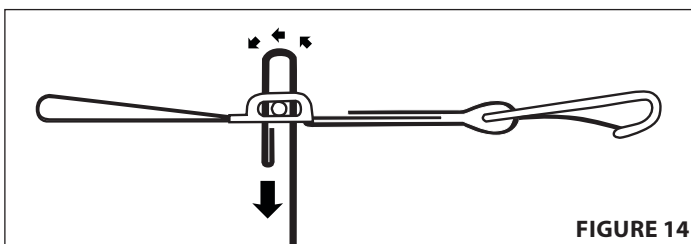

FIGURE 14
3. Feed end tail over roller bar and down through float buckle. **SEE FIGURE 14**
4. Pull end tail away from float buckle. **SEE FIGURE 14**